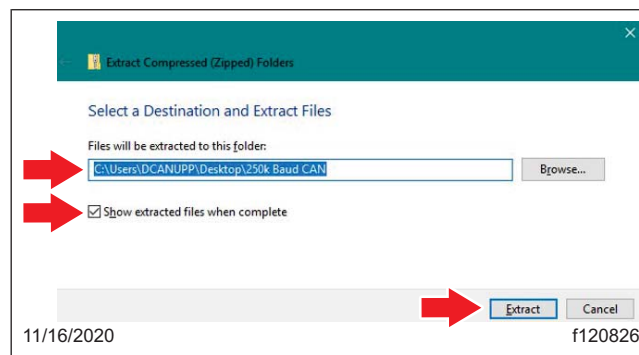

Fig. 8, Extracting the File
10. Allow the default folder location to be where the file is extracted. Make sure the 'Show extracted files when complete' box is checked, then select the extract button. See Fig. 8.